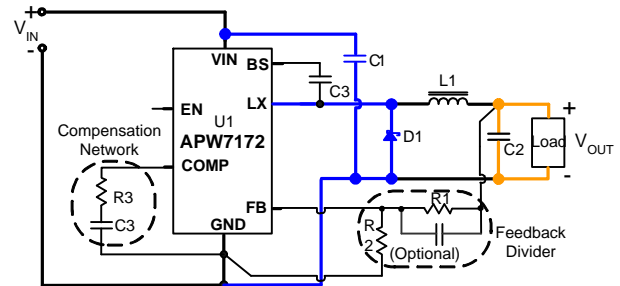

Figure 3. Current Path Diagram
In high power switching regulator, a correct layout is important to ensure proper operation of the regulator. In general, interconnecting impedance should be minimized by using short, wide printed circuit traces. Signal and power grounds are to be kept separating and finally combined using the ground plane construction or single point grounding. Figure 3 illustrates the layout, with bold lines indicating high current paths. Components along the bold lines should be placed close together. Below is a checklist for your layout:
2. In Figure 3, the loops with same color bold lines conduct high slew rate current. These interconnecting impedances should be minimized by using wide and short printed circuit traces.